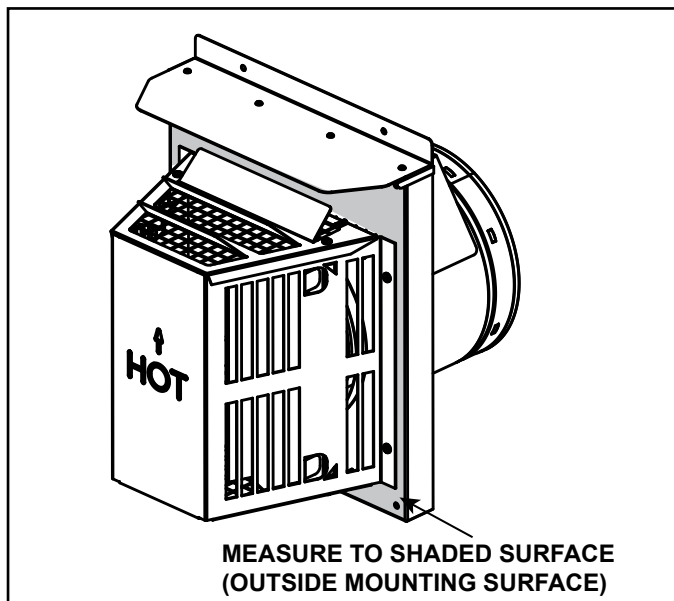

Figure 4.11
- Horizontal termination cap should have a 1/4 inch downward slant to allow any moisture in cap to be released. See Figure 4.11.